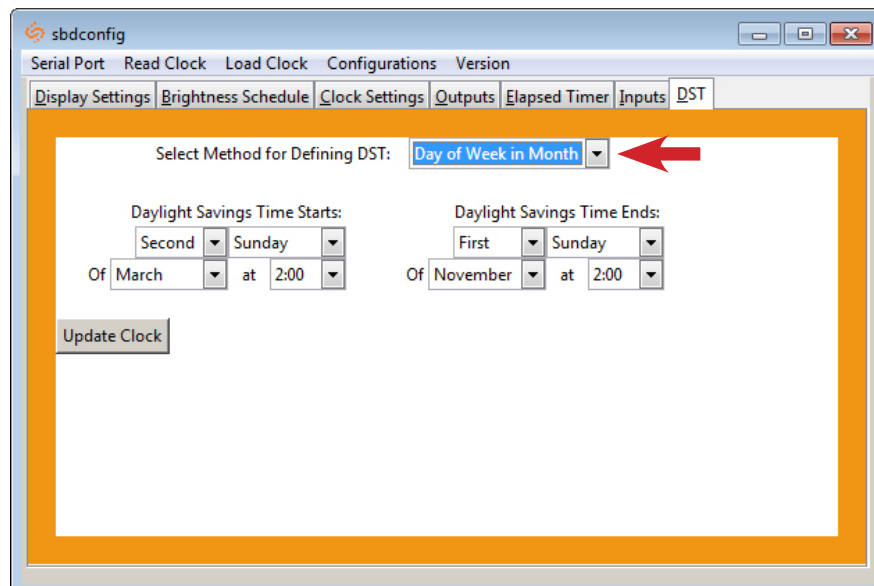

Fig. 5
- **Day of Week in Month:** When this option is selected, Daylight Saving Time can be set based on what week in what month and what time it begins and ends. For example, Daylight Saving Time can begin on the second Sunday in March at 2AM and ends on the first Sunday in November at 2AM. (Fig. 5)